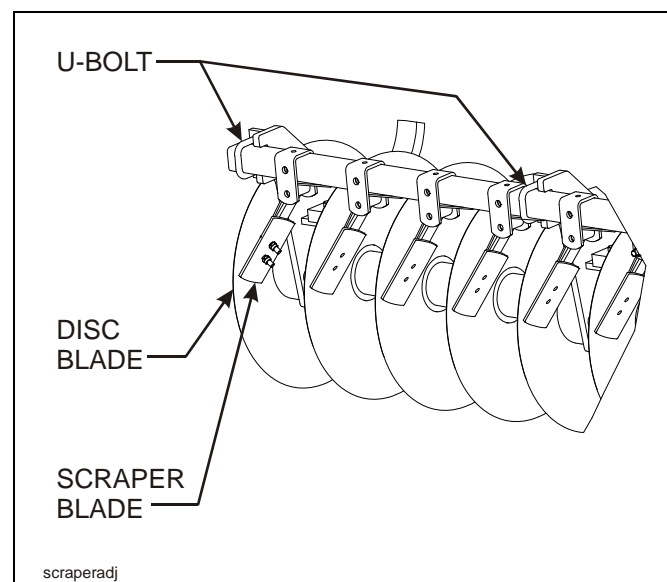

Figure 4-1: Disc Scraper Adjustment to Disc Blade
5. Check disc scrapers for proper adjustment to the disc blade (**See Figure 4-1.**) To adjust the pressure of the disc gang scrapers, loosen the u-bolts that clamp the assembly to the disc gang and slide the scraper assembly into the disc blades. Only enough pressure is required to keep the disc blades clean. The scraper blades are reversible to allow extended use before replacement is required.